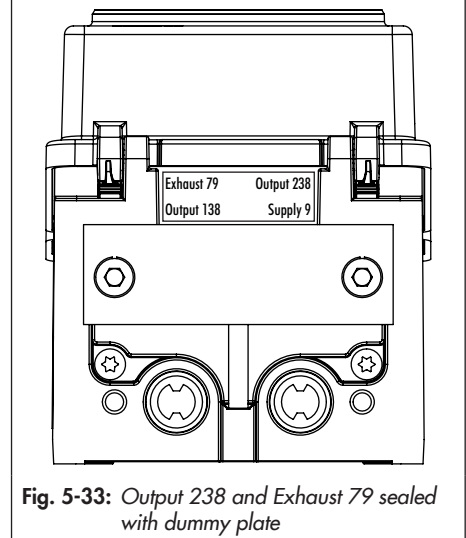

Fig. 5-33: Output 238 and Exhaust 79 sealed with dummy plate
- ➔ Seal Output 238 and Exhaust 79 with a dummy plate (see Fig. 5-33) if only one pneumatic output is available.
The signal at output 138 is used to control a single-acting pneumatic actuator. The outputs 238 and 79 are sealed (see Fig. 5-33). The air capacity can be doubled by using two pneumatic modules.